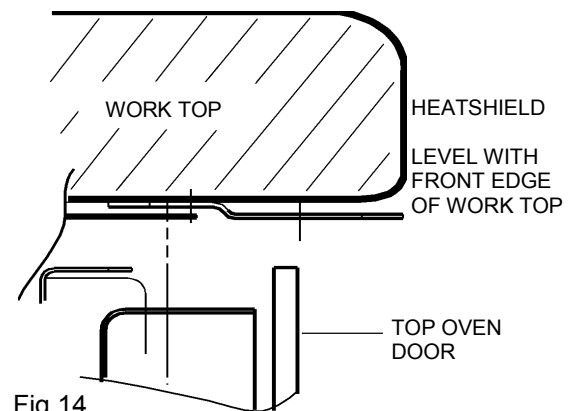
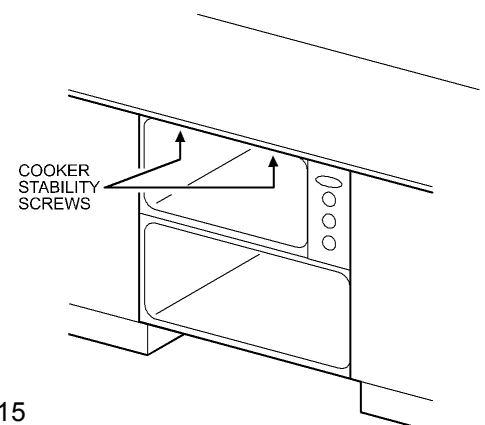

Fig.14
Fig.15
- Place the heat deflector flush with the edge of the work surface, (see Fig.14) with the cork spacers up over (see Fig.15) and screw into position using the screws supplied with the appliance. Failure to do this may cause damage to the underside of the work surface.